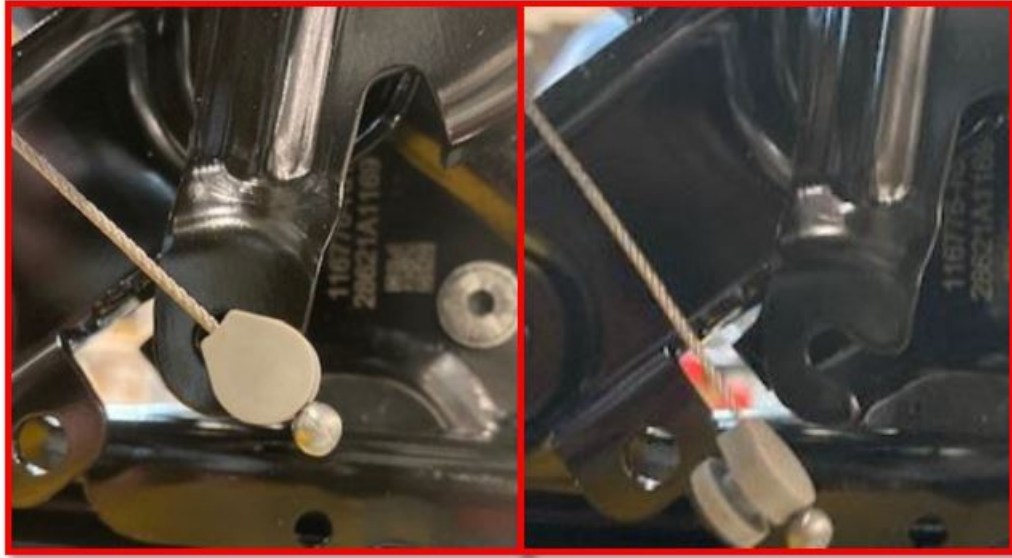

Fig. 2
9. Check if the cable **ends** are completed locked in place. If the cable end is properly locked in place, it should be able to be turned. If cable ends are loose or not fully seated use pliers to lock cable end into the bracket (Fig. 2) .